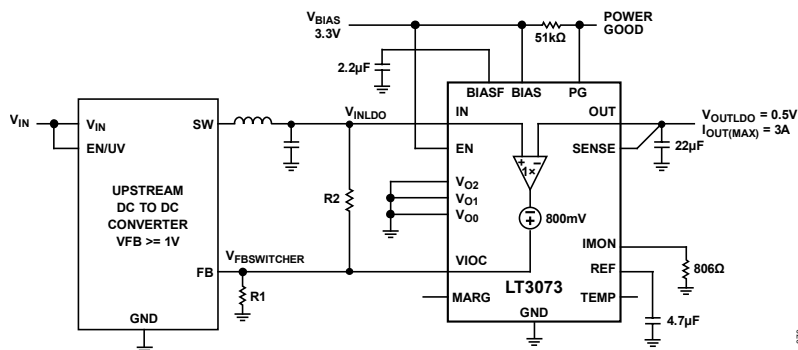

Figure 70. VIOC Basic Operation
The VIOC pin controls an upstream switching converter to maintain a constant voltage across the LT3073, regardless of the LDO’s output voltage. This maximizes efficiency while maintaining PSRR performance. The VIOC pin is the output of a fast amplifier and equals to $(V_{IN} - V_{OUT}) + 800\text{mV}$. As shown in Figure 70, the VIOC feature is simple to use. In the case of $V_{FB} \geq 1\text{V}$, connect the VIOC pin to the upstream switching converter’s feedback (FB) pin. This will regulate the LT3073’s input-to-output differential to the switching converter’s feedback voltage minus 800mV. When paralleling multiple LT3073s, connect the VIOC pin of one of the LT3073 to the upstream switching converter’s feedback pin and float the remaining VIOC pin(s). When LT3073 is turned off, V_{INLDO} is clamped to a voltage set by $V_{FBSWITCHER} \times (R1 + R2)/R1$